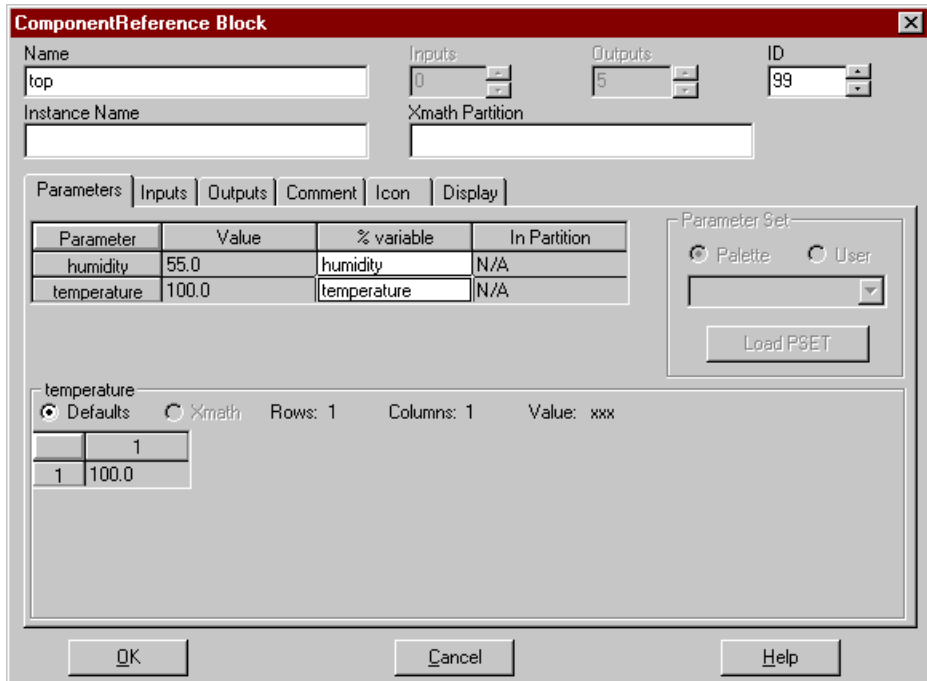

FIGURE 17-2 Exported Variables in a Component Reference Dialog
- Open the SuperBlock 'ex2', then open the block dialog for the component reference 'top'. Note the exported %Variables are visible (see Figure 17-2). Click on the parameter name to view the value in the spreadsheet below.